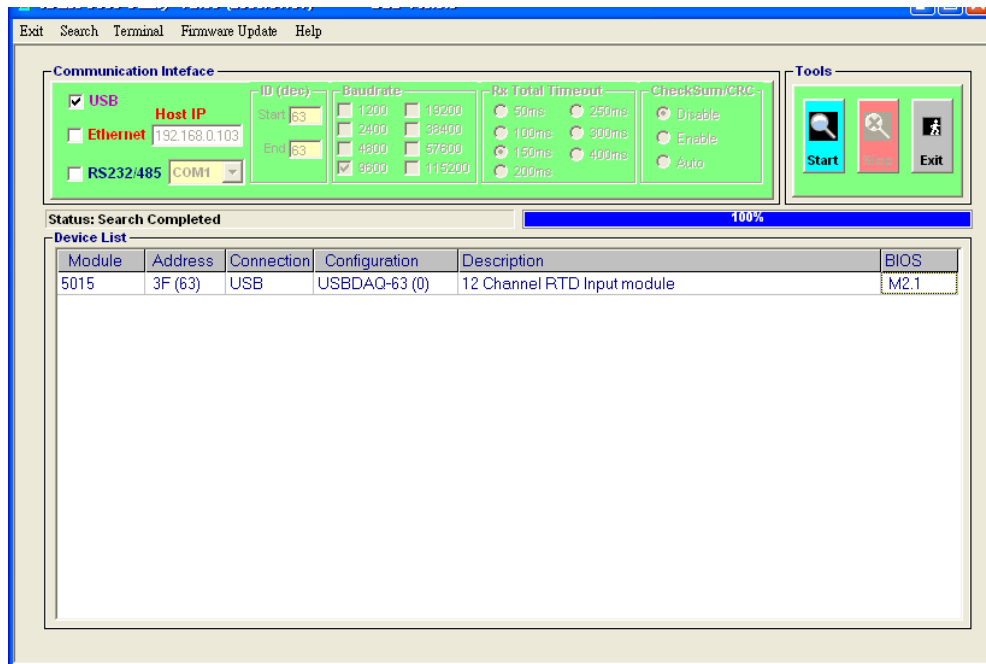

Figure -3
- Executes provided EX-5000 utility called “E5KUtility.exe” (see Figure -3)